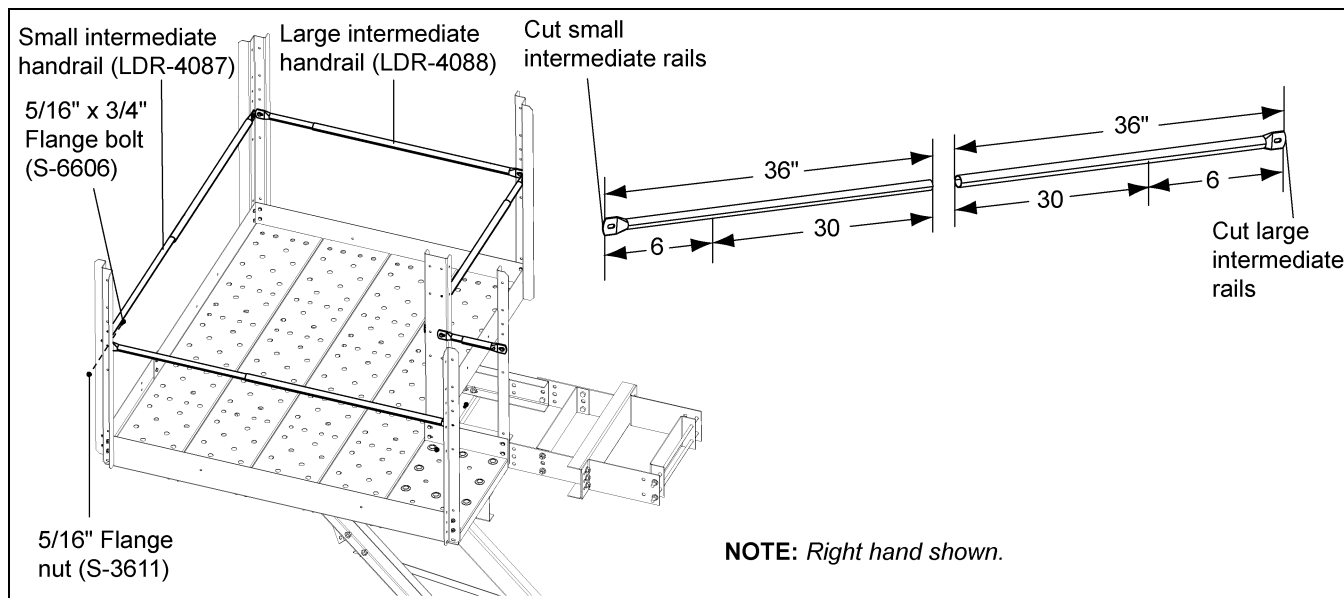

Figure 12N
1. Insert small intermediate handrail into the large intermediate handrails to create telescoping rails. Cut 30" off one small intermediate and one large intermediate rail to fit at entrance. Adjust all rails to the proper length and install to the posts using the 5th hole down from the top. Fasten in place using two (2) 5/16" x 3/4" flange bolts and nuts per each telescoping tube. *(See Figure 12N.)*